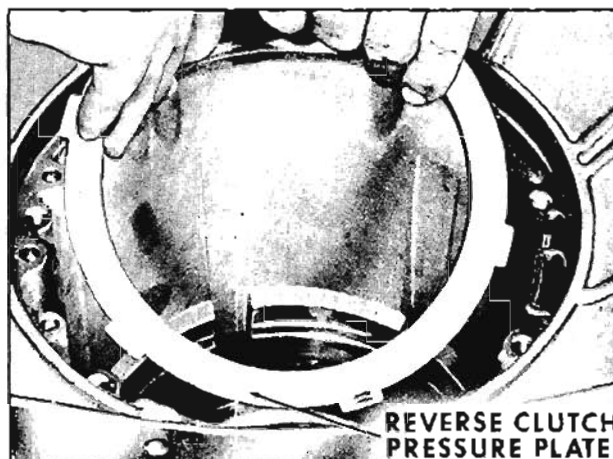

Fig. 6-291 Removing Reverse Clutch Pressure Plate
2. Lift reverse clutch pressure plate from transmission case. (Fig. 6-291)